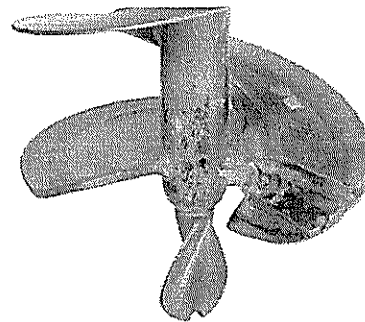

FIGURE 15
14. Inspect auger blade and screw bit for excessive wear, cracking, sharpness and missing parts. Replace as required to prevent undo wear to boring head and inverted cone configuration to auger fighting. The end result is substandard productivity and usually requires complete auger replacement. FIGURE 15. Auger service life can be greatly extended with constant auger wear part maintenance.